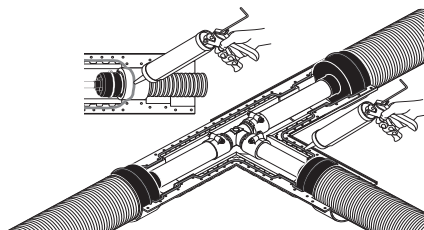

Figure 4-53: Sealant Compound
9. Apply sealant compound to end caps and shell as shown (**Figure 4-53**).